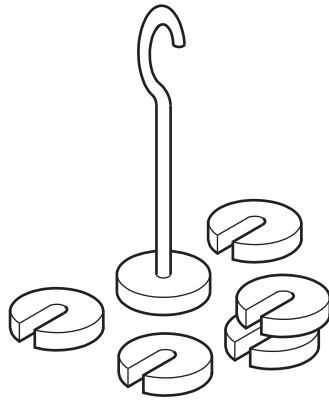

Fig. 9.2
- (iv) Fig. 9.2 shows weights that will be used to test the completed model.